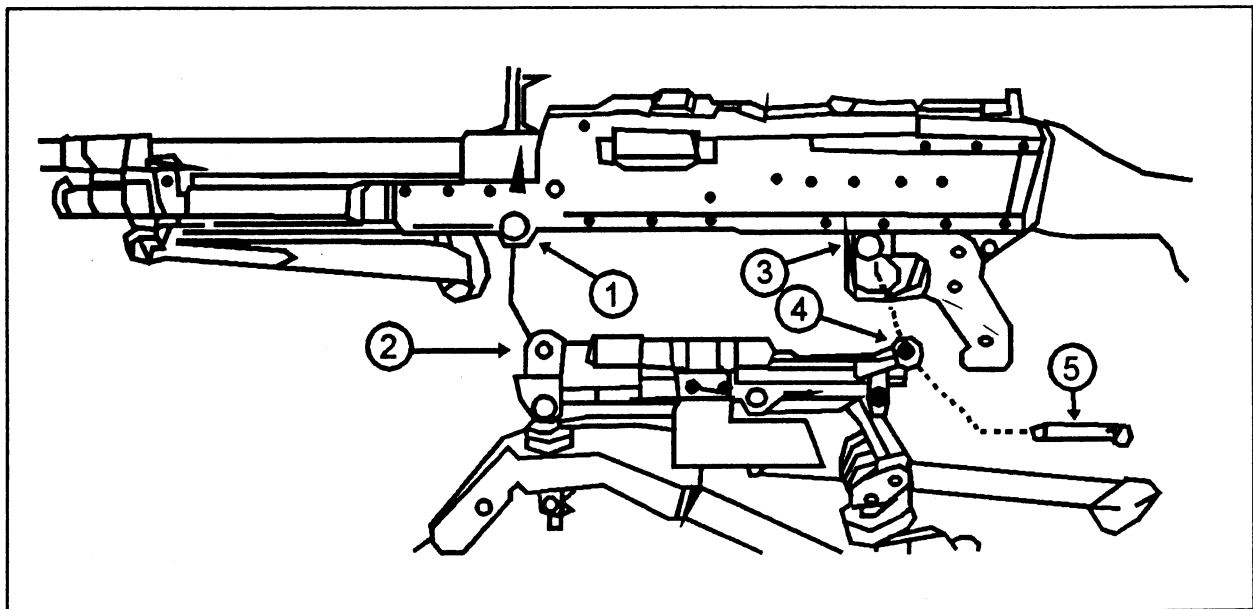

Fig 1-21. Connecting the M240G to the flex mount assembly.
b. Mounting the M240G machinegun on the flex mount assembly (see fig 1-21)
- (1) Position the weapon over the M122 tripod mount and flex mount assembly.
- (2) Tilt the muzzle down and insert the receiver bushings (1) into the front cradle slot (2) of the flex mount assembly.
- (3) Pull the weapon to the rear to fully seat the receiver bushing in the cradle.
- (4) Lower the rear of the weapon onto the flex mount. Align the mounting hole (3) in the trigger housing with the mounting hole (4) in the flex mount assembly.
- (5) Insert the spring pin (5) through the hole in the flex mount and receiver. Ensure the weapon is securely attached to the flex mount.